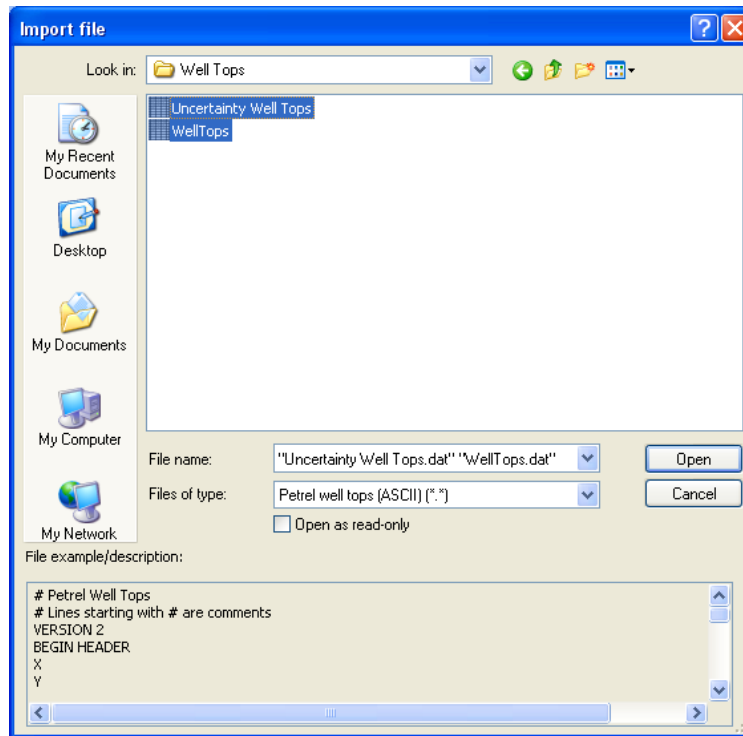

Fig. 4.26: The Import File form
3. The **Import File** form appears as shown in Fig. 4.26. Select **Petrel Well Tops (ASCII) (*.*)** from the **Files of type** combo box.